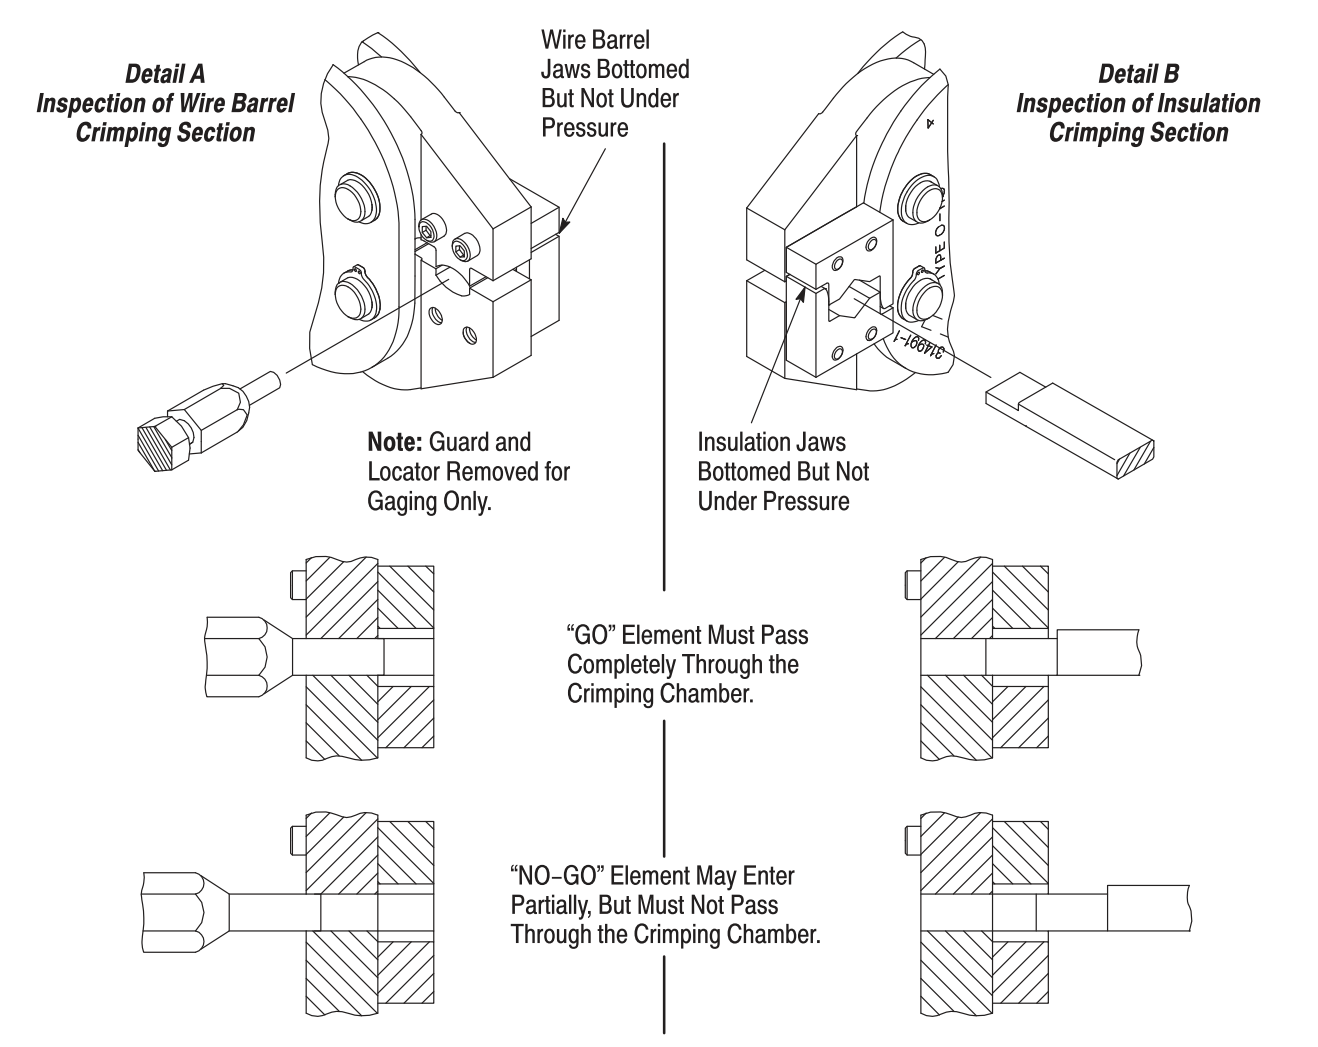

Figure 7
4. Align GO element with wire barrel crimping section. Push element straight into crimping chamber without using force. The GO element must pass completely through the crimping chamber as shown in Figure 7, Detail A.
7. Repeat this procedure for the insulation crimping section using a plug gage as shown in Figure 7, Detail B.